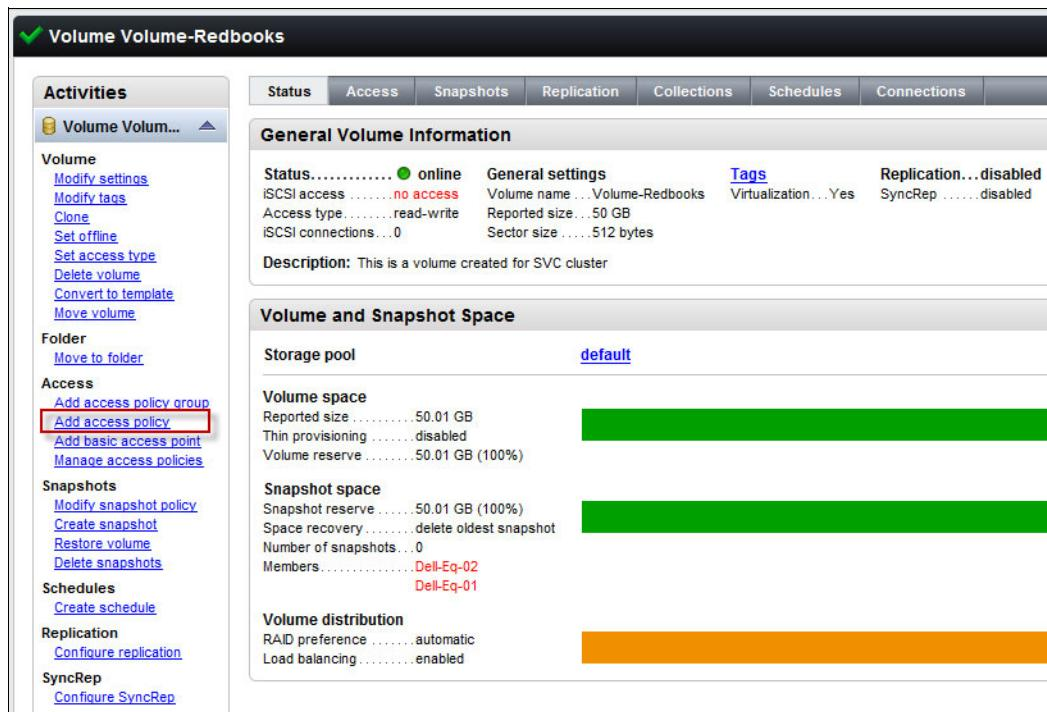

Figure 14-20 Window to add an access policy
- In the Activities window, click **Add access policy**, as shown in Figure 14-20.